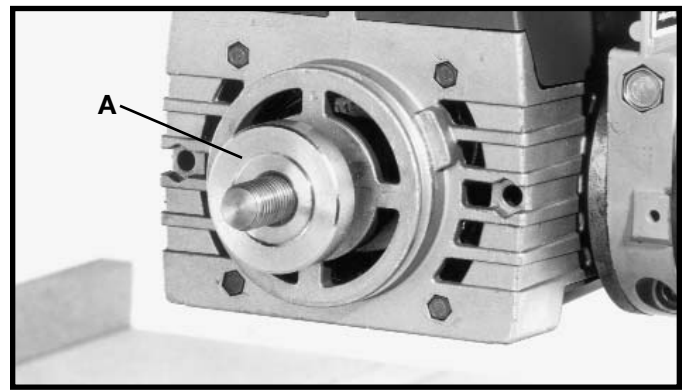

Fig. 44
2. Assemble the inside (thick) arbor flange (A) Fig. 44, onto the arbor shaft with the recessed side of flange (A) facing out.